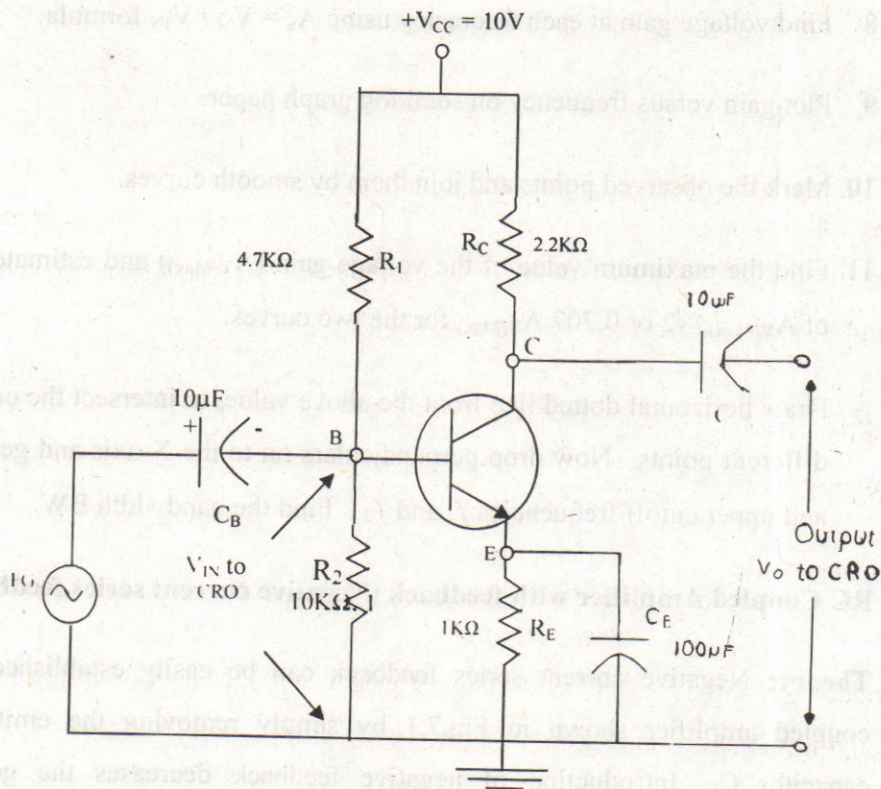

Fig.7.1 RC-coupled amplifier
3. Connect the circuit as shown in Fig.7.1.
Theory: Negative current series feedback can be easily established in a RC coupled amplifier shown in Fig.7.1 by simply removing the emitter bypass capacitor C_E . Introduction of negative feedback decreases the gain of the amplifier, decreases the lower cut-off frequency and increases the upper cut-off frequency. If A^1 and A are gains with and without feedback, f_1^1 and f_1 are the lower cut-off frequencies with and without feedback, f_2^1 and f_2 are the upper cut-off frequencies, with and without feedback, if feedback ratio is β , these are connected by the relations